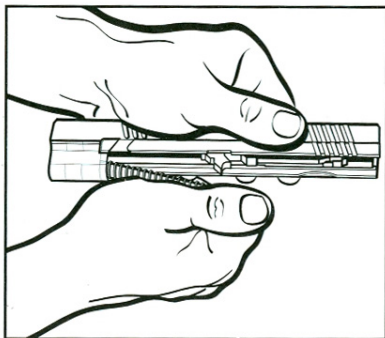

Figure 24-1
7. Remove the recoil spring assembly, from the slide. (Figure 24-1)